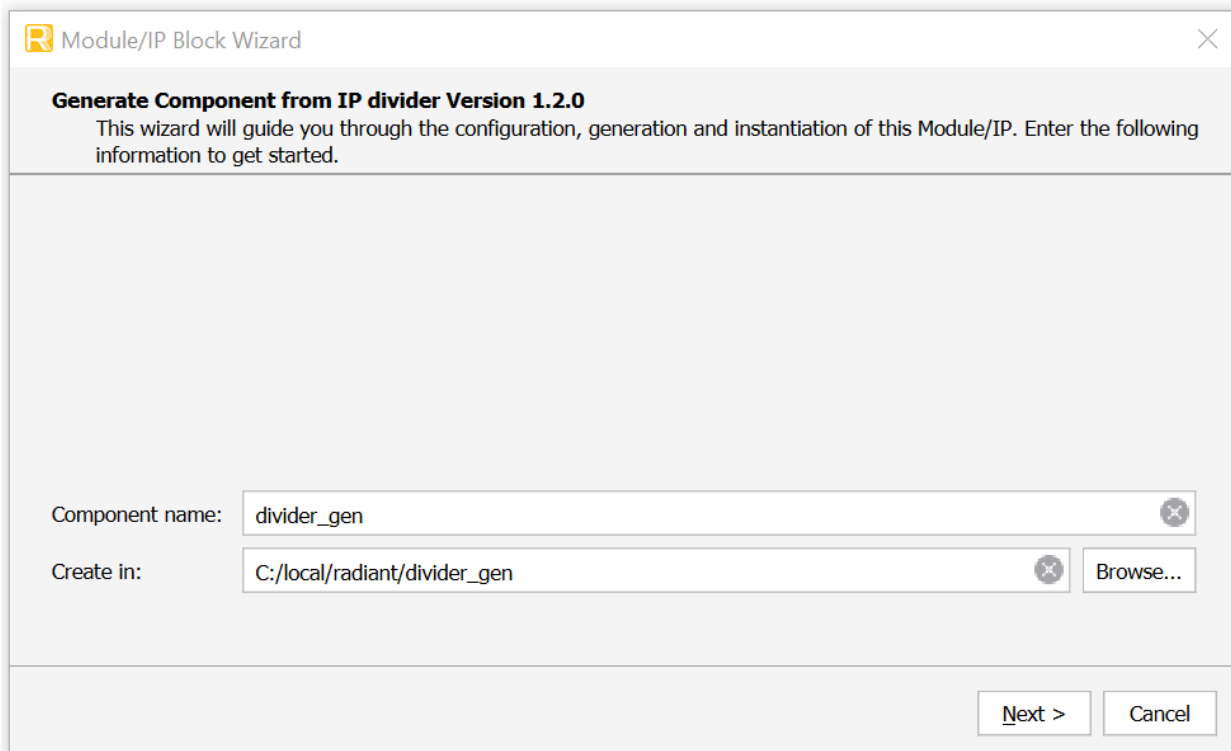
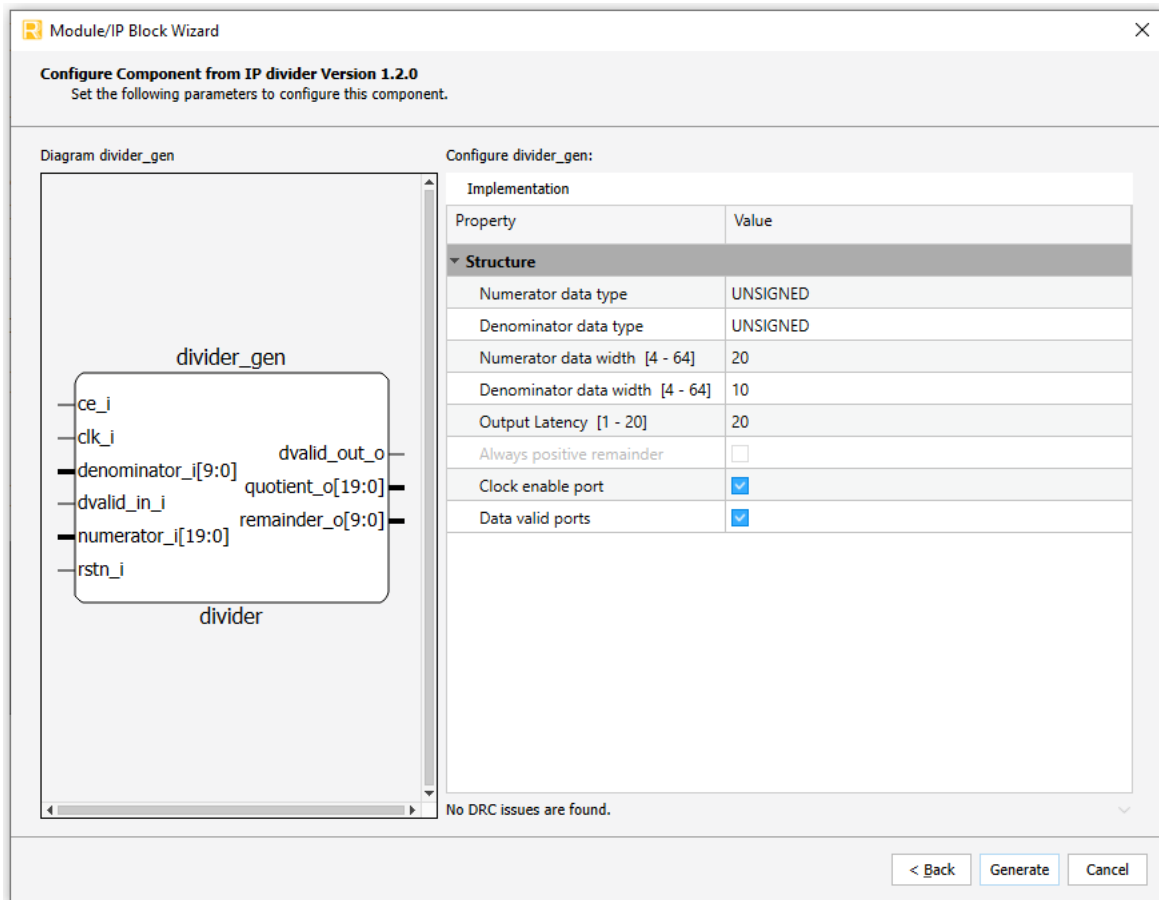

Figure 3.1. Module/IP Block Wizard
Figure 3.2. Configure User Interface of Divider IP Core
2. In the **IP Catalog** tab, double-click **Divider** under **DSP** category. The **Module/IP Block Wizard** opens as shown in Figure 3.1. Enter values in the **Component name** and the **Create in** fields and click **Next**.
- In the module's dialog box of the **Module/IP Block Wizard** window, customize the selected Divider IP Core using drop-down menus and check boxes. As a sample configuration, see Figure 3.2. For configuration options, see the Attributes Summary section.
All the generated files are placed under the directory paths in the **Create in** and the **Component name** fields shown in Figure 3.1.
Core Generation, Simulation, and Validation	<ul style="list-style-type: none"> Updated Figure 3.1. Module/IP Block Wizard to reflect the most recent software update. Updated Figure 3.2. Configure User Interface of Divider IP Core to reflect the most recent software update.